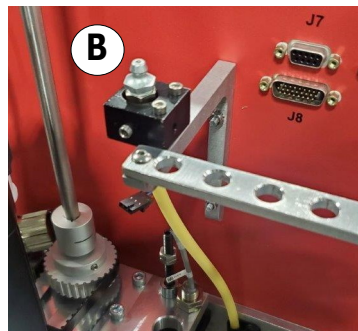

Figure 6-27 Carriage Rear - Lift Grease Fitting
4. Connect grease gun to carriage lift grease fitting Figure 6-27 location (B).